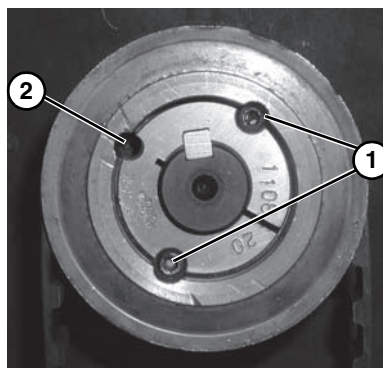

Figure 17
4. Loosen taper-lock screws (**Figure 17, item 1**) and remove drive pulley: Insert one (1) of taper lock screws in remaining hole (**Figure 17, item 2**). Tighten screw until pulley is loose.